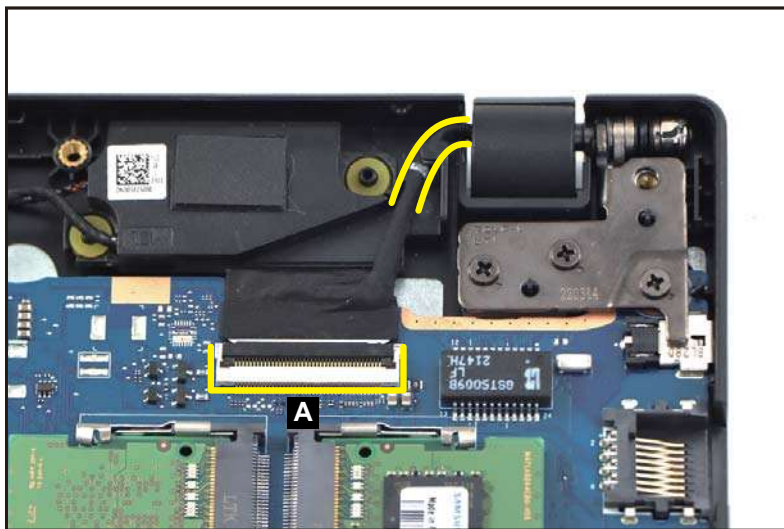

Figure 3-22. LCD Module Removal
1. Disconnect the LCD cable from the mainboard connector (A) (Figure 3-22).
2. Unroute the LCD cable from the cable guides as shown in Figure 3-22.